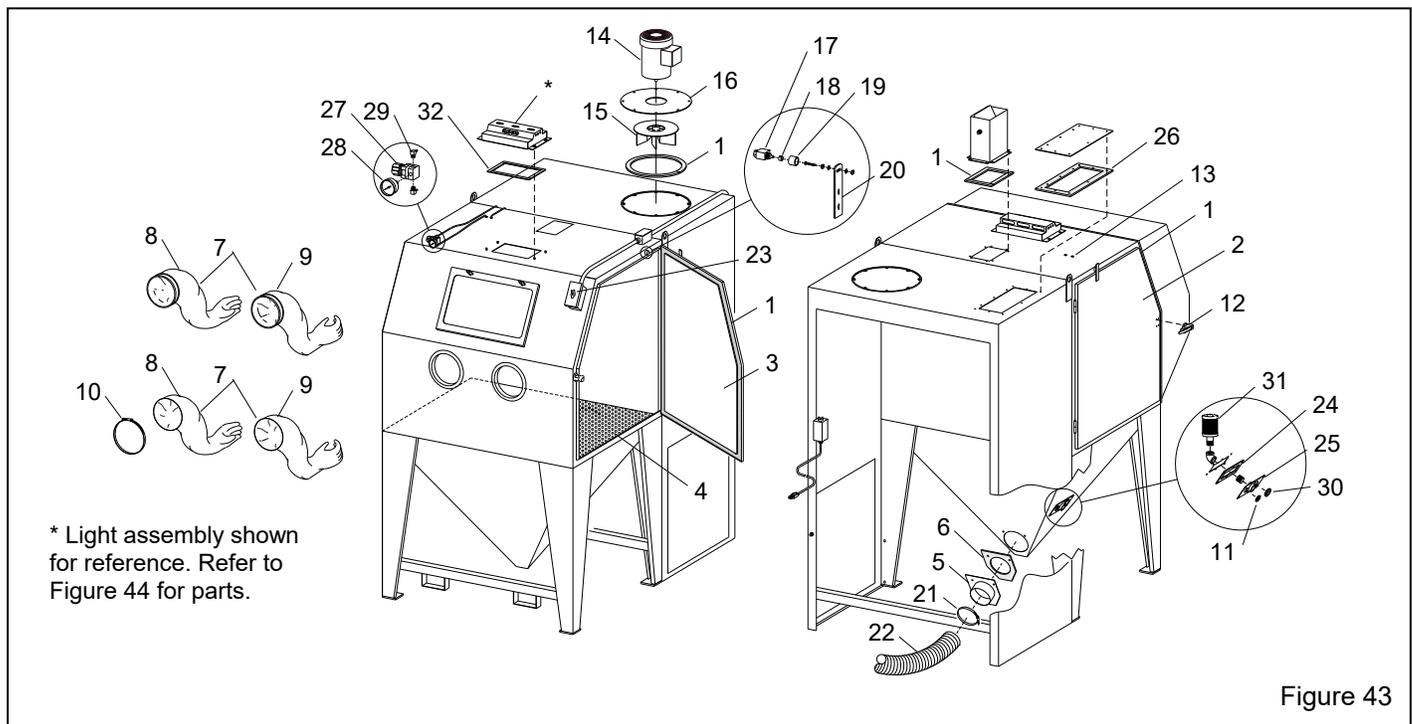

Figure 43
9.3 Cabinet Replacement Parts – Figure 43